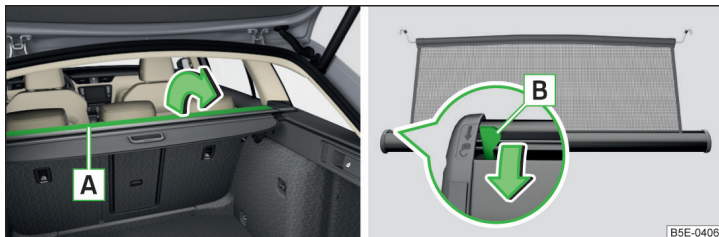

Fig. 147 Open part of the roll-up luggage compartment cover / release lever
- › Fold out part **A** of the roll-up luggage compartment cover in the direction of arrow » Fig. 147.
- › Fold back part **A** of the roll-up luggage compartment cover in the opposite direction of the arrow » Fig. 147.
If the net partition blocks when pulling it out, push the release lever **B** in the direction of the arrow » Fig. 147.